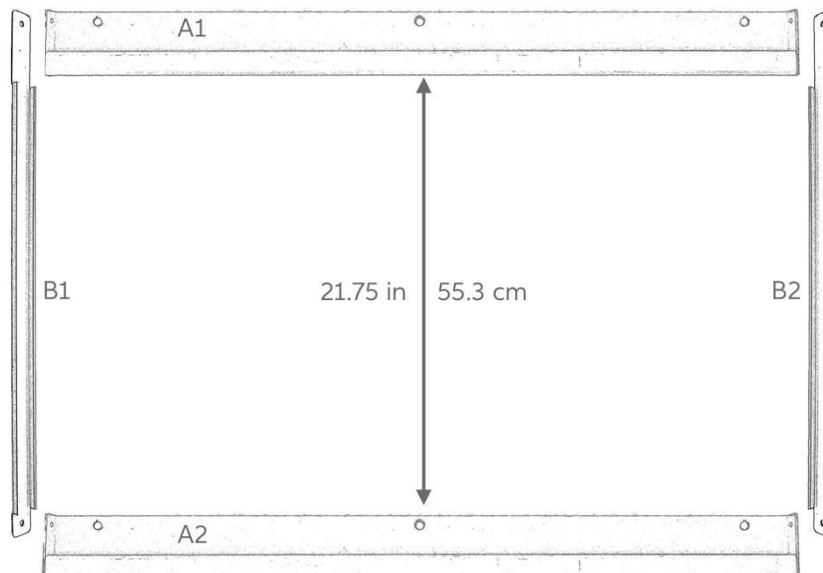

Fig. 2
1. Place and level the second mounting crossbar (A2) on the wall exactly 55.245 cm (21.75 in) (bottom of A1 to bottom of A2) below the top crossbar (A1). Use the spreader bars (B1 & B2) to determine appropriate distance, as seen in Figure 2.
2. Place and level the second mounting crossbar (A2) on the wall exactly 55.3 cm (21.75 in) (bottom of A1 to bottom of A2) below the top crossbar (A1). Use the spreader bars (B1 & B2) to determine appropriate distance, as seen in Figure 2.